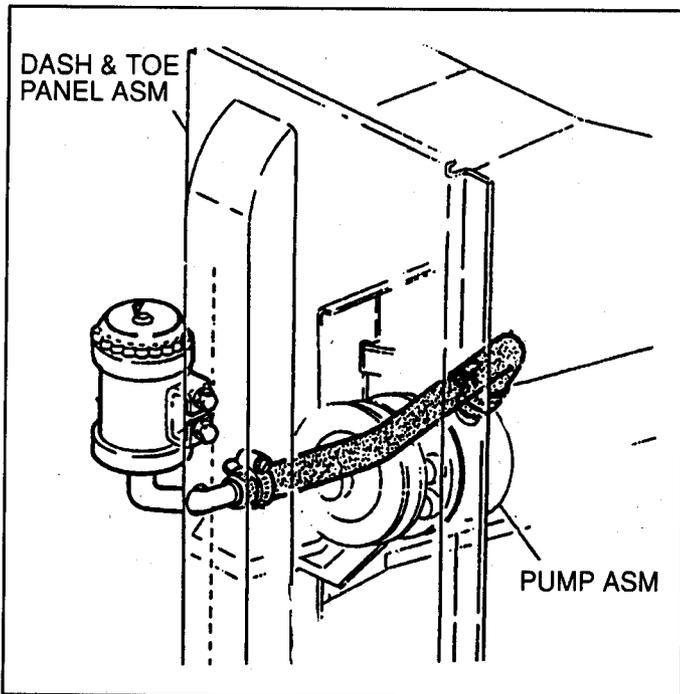

Figure 3-9 — Power Steering Reservoir
**NOTE:** Noise in the power steering system on the 14,500 and 14,800 lb GVW chassis may be the result of air in the system. Air in some cases may be trapped at the high point in the steering line from the reservoir to the steering pump. The air being trapped in this line is the result of line routing in relationship to the pump reservoir. Correct this condition by raising the reservoir 4 inches upward from the present location on the dash and toe panel — see Figure 3-9. This will route the hoses above the steering pump and eliminate the high point where air is being trapped. The above was a production change in November 1992 beginning with V.I.N. 306209.